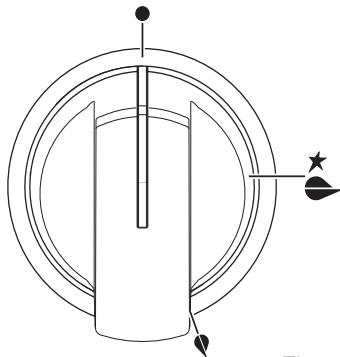
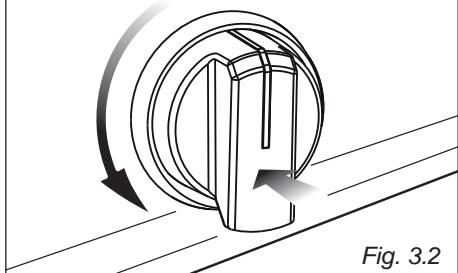

Fig. 3.1
Fig. 3.2
Gas flow to the burners is adjusted by turning the knobs (illustrated in fig. 3.1) which control the safety valves. Turning the knob, so that the indicator line points to the symbols printed on the panel, achieves the following functions:
1. Press in the corresponding knob and turn counter-clockwise (fig. 3.2) to the full flame position marked by the   symbol (fig. 3.1); hold the knob in until the flame has been lit. In the case of a mains failure light the burner with a match or lighted taper.